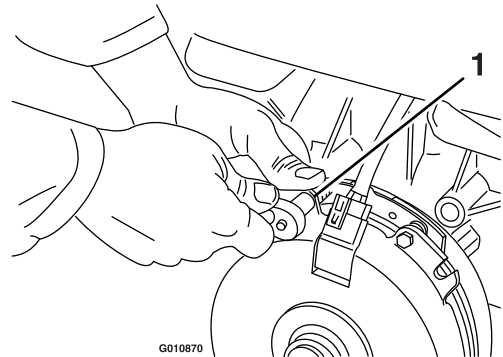

Figure 57
- A. Loosen both brake mounting bolts 1/2 to 1 full turn as shown in Figure 57.